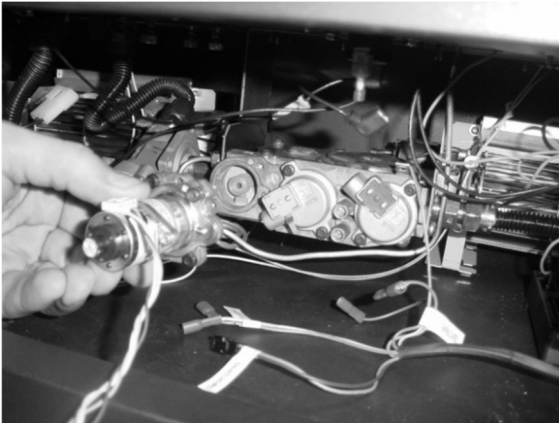

Figure 1
- (b) Remove and discard the Natural Gas (NG) orifice. Place the LP orifice in the pilot assembly then replace the pilot hood, tightening the pilot hood until it is snug (do not over-tighten).
4. Remove the control panel to access the gas control panel. The stepper motor (adjustable regulator) has an installation sheet included with it – make sure to follow all of the directions. Place the stepper motor on the gas control valve (see Figure 1) – **MAKE SURE IT IS CORRECTLY ORIENTED**. Secure using the screws included with the motor (see Figure 2) – tighten to 25 Lb-inches. Leak test this area after installation to verify proper installation.